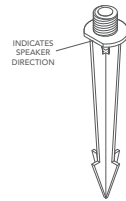

Figure 5
2. Using a rubber mallet, carefully pound the included satellite ground stakes into the ground at the predetermined mounting locations. Note the flat indicator on the stake and ensure this indicator faces the desired speaker direction (see Figure 5).